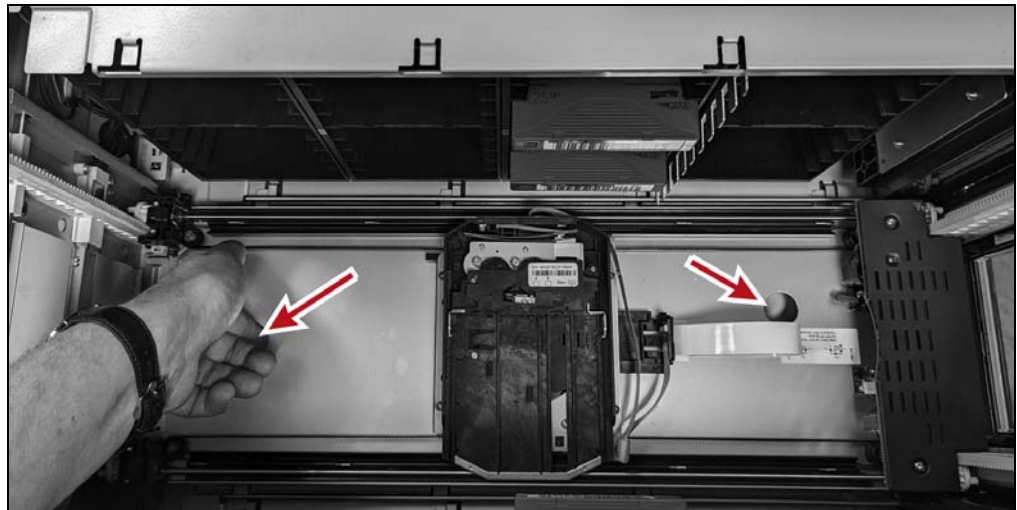

Figure 6 Use the cutout holes to raise the robotic elevator.
5. Using your finger, hold the robotic elevator in place (see Figure 6 on page 8) while you pull the shipping bracket out of the chassis.